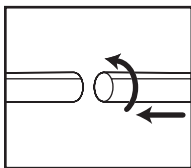

FIGURE 14
17. Attach one of the cleaning accessories (depending on your cleaning requirements) on the extension wands. Twist slightly to tighten the connection. **FIGURE 14.**